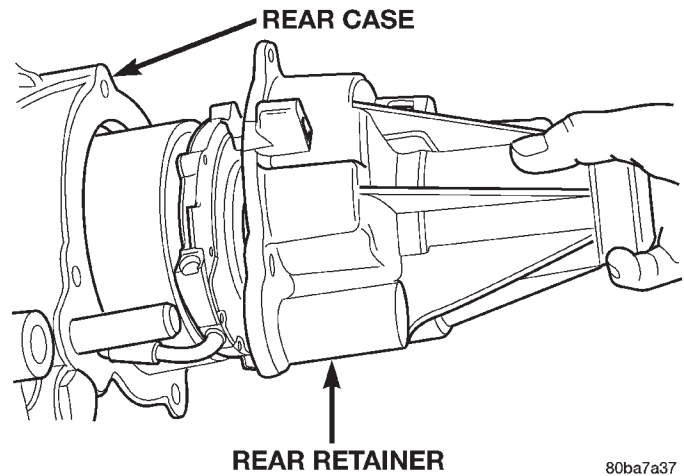

Fig. 75 Rear Retainer Installation
- (6) Install rear bearing locating ring in rear retainer, if ring was removed during overhaul.
- (7) Apply 3 mm (1/8 in.) wide bead of Mopar® gasket maker or silicone adhesive sealer to mounting surface of rear retainer. Allow sealer to set-up slightly before proceeding.
- (8) Slide rear retainer onto mainshaft (Fig. 75).